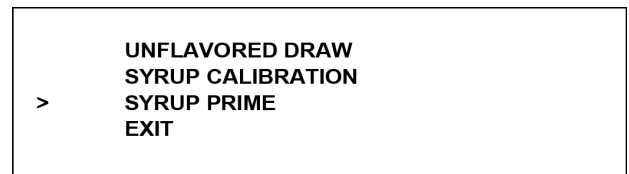

Figure-49
8. Press the Auto symbol  or the optional Flavor symbol  to scroll the arrow to SYRUP PRIME. (See Figure-49.)